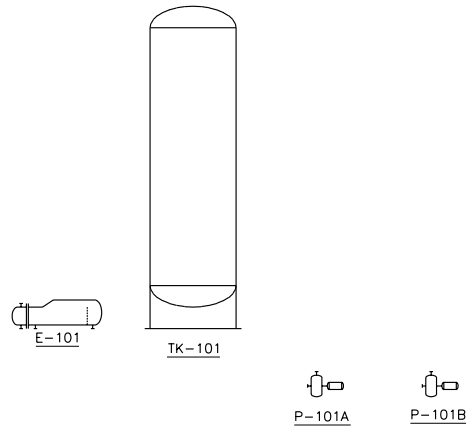

Figure 2-46 P&ID after placing two centrifugal pumps
5. Similarly, place another horizontal centrifugal pump at the point (21,3). Next, assign the tag **P-101B** to the pump. Figure 2-46 shows the P&ID after placing the centrifugal pumps.